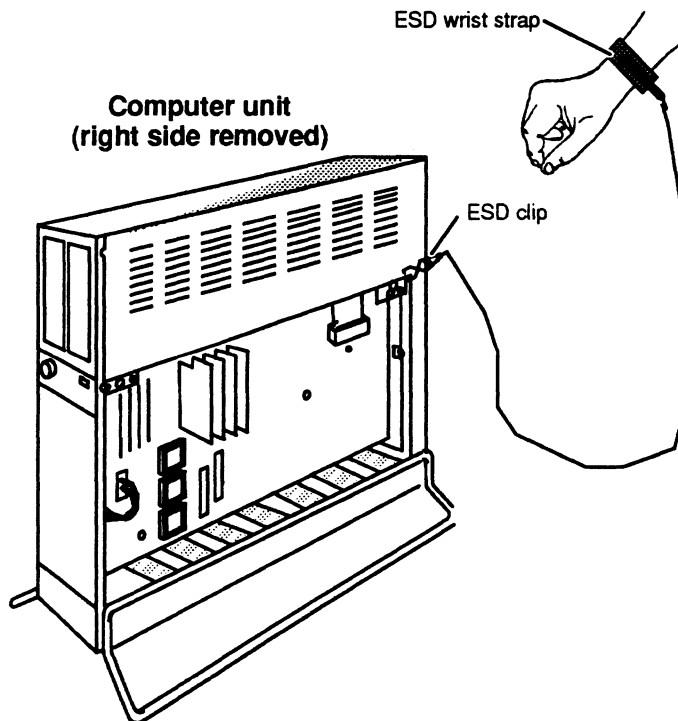

Figure 1-9 Attaching the ESD Wrist Strap and Clip
3. Put on the ESD wrist strap and attach the ESD clip to any unpainted metal surface of the chassis as shown in Figure 1-9.